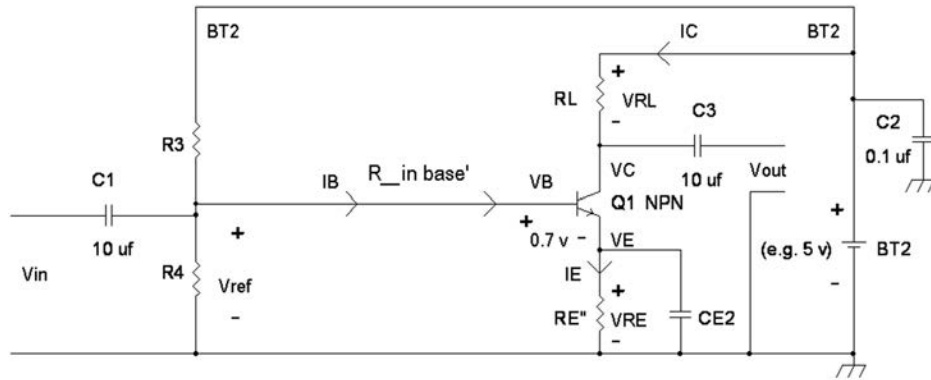

FIGURE 8-30 Capacitor $CE2$ effectively AC grounds $Q1$'s emitter.
An emitter bypass capacitor $CE2$ provides higher gain (V_{out}/V_{in}) at the expense of higher distortion. But this circuit allows for lower supply voltages. See Figure 8-30.
7. In Figures 8-30 and 8-31 emitter capacitors CE and $CE2$ are chosen to determine the low-frequency response. The $10\ \mu\text{f}$ input and output capacitors, $C1$ and $C3$, are designed with sufficient capacitance for most applications with a 20 Hz or lower cut-off frequency. For example, for audio applications, where a low-frequency response of ≤ 20 Hz is required, $C1$ and $C3$ generally will work because input and output resistances are generally greater than $1\text{K}\Omega$.
9. The common emitter amplifier in Figure 8-30 where capacitor CE is an AC short circuit from emitter to ground has the same input amplitude limitation as the simple bias circuit in Figure 8-11 for tolerable distortion at the output, V_{out} . By tolerable distortion, an example would be for intelligible voice signals, < 10 percent harmonic distortion is workable. That is, generally the input signal, V_{in} , is limited to less than 10 mV or 20 mV peak to peak when driven by a low impedance source signal such as a 50 Ω generator. If V_{in} is driven with a larger value source resistance such as a $\geq 10\text{K}\Omega$ series resistor, the distortion will be lower but the voltage gain will be lower as well due to the input resistance forming a voltage divider circuit.
The DC collector voltage will determine output voltage swing. For the circuit in Figure 8-30, where capacitor CE is an AC short circuit, the maximum voltage swing will be from VE to BT2. For example, if VB is 2 volts, then VE = 1.3 volts due to the 0.7-volt base – emitter voltage. If BT2 = 6 volts, then the peak to peak output swing will be from +1.3 volts to +6 volts, which will be (6 volts – 1.3 volts) peak to peak or 4.7 volts peak to peak. However, often the DC collector voltage is not centered to give maximum voltage swing without clipping prematurely on one-half of a sine wave cycle before the other half of the sine-wave. To maximize, you can set the DC collector voltage at the average of BT2 and VE, which is $VC = (BT2 + VE)/2$.